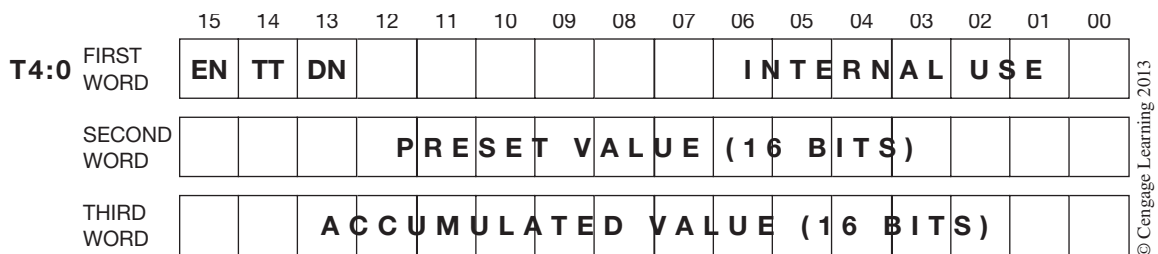

Figure 11-16 Timer Storage Format
The EN bit is set to 1 (or is true) whenever there is a logic path to the timer block. The DN bit is set to 1 (or is true) when the accumulated value equals the preset value, and the timer has timed out. Figure 11-16 shows how the information for a timer is stored. Three words of memory are used for each timer programmed. The first word of memory uses the first 8 bits for internal use and uses bit 13 for the DN bit, bit 14 for the timer timing bit (TT), and bit 15 for the EN bit. The next two words store the preset and accumulated values of the timer.